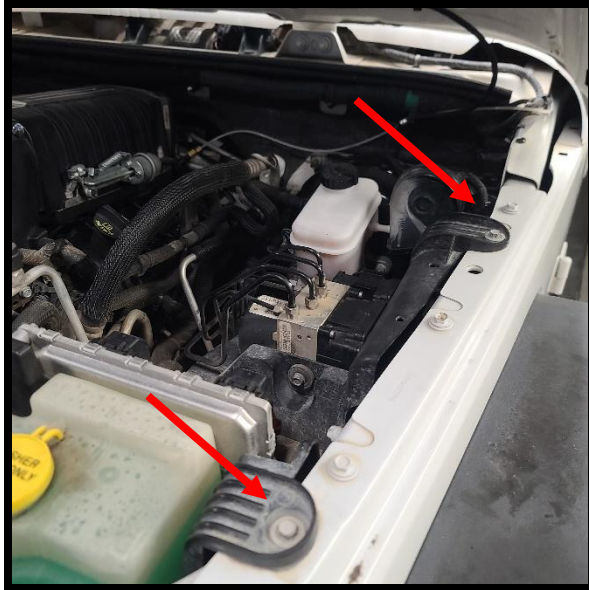

Figure 8
3-A) Under the hood, remove the three (3) bolts indicated below in **Figures 8 and 9**. The lower bolt also requires the removal of the nut on the back side from the inner fender (**Figure 10**). Place some sort of spacer under the plastic tab as shown in **Figure 11**. This will allow access to the underside for installation of the air locker manifold assembly.